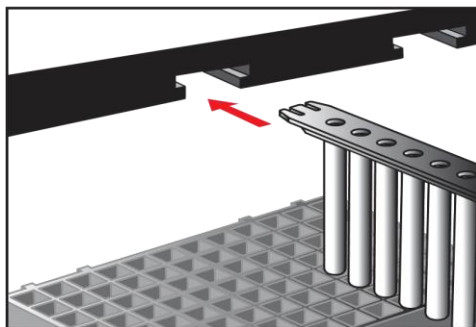

Figure 3: Inserting the rods plastic strip to its position
- Insert the rods plastic strip the strip holder in accordance to the tested samples plate and push it to the end (figure 3).